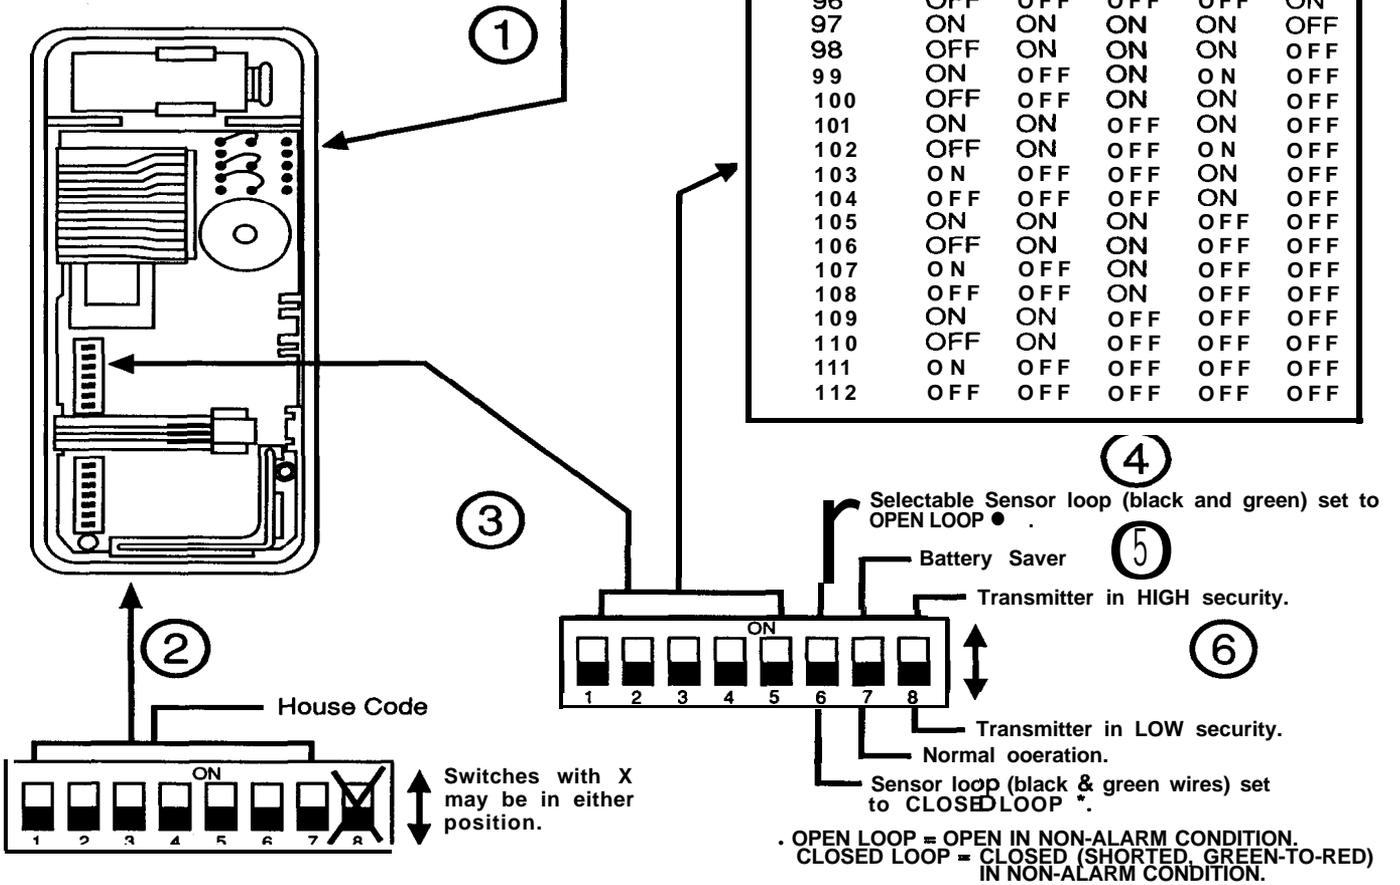

Figure A-4 Remote Transmitter
Settings/Connections: Refer to Figure A-4. The circled numbers on the figure correspond to the numbered steps which follow.
3. The Transmitter is identified by a wireless sensor number (81 through 112 in Fn#511). Set this number using the table in Figure A-4.